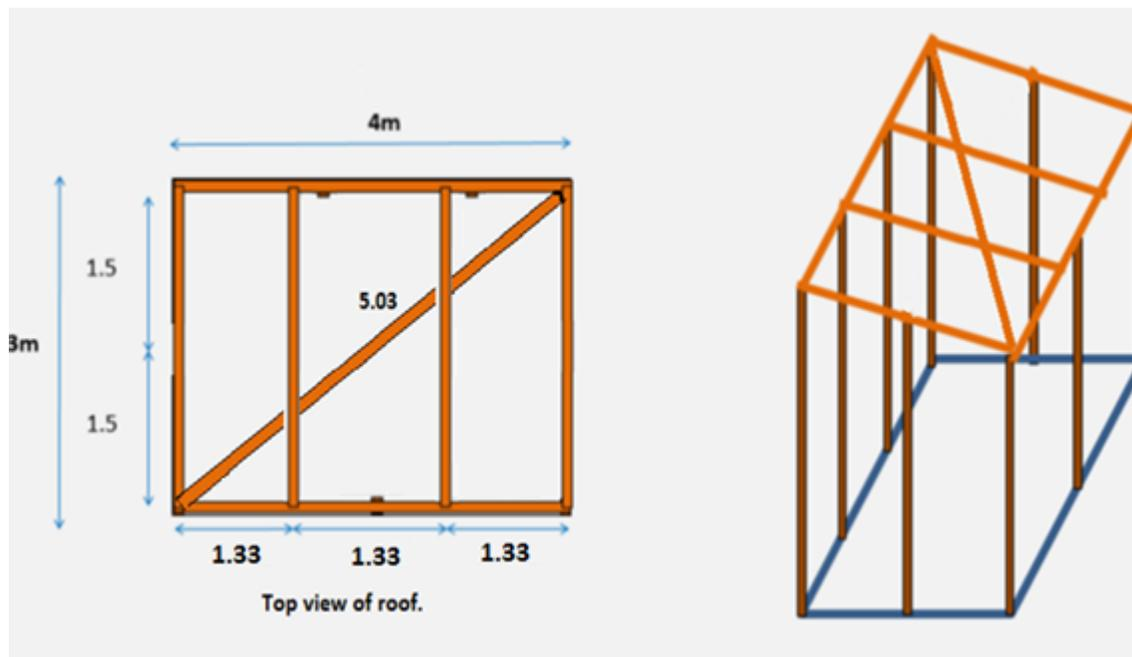

Figure 10: Spacing for the roofing timbers is 1.33m, 1.33m, and 1.33m.
- f. Connect the 2 x 2.59m upright side supports from step 2.e underneath the 3.05m roofing timbers. (Refer to Figure 10)